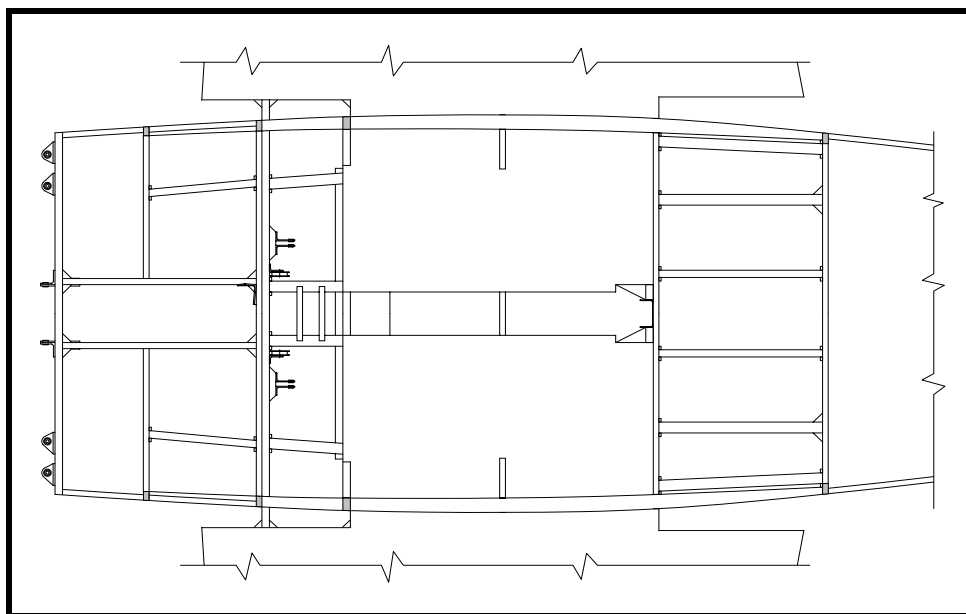

Figure 17
- ❑ Install the outboard luggage compartment flooring supports. See Figure 17.